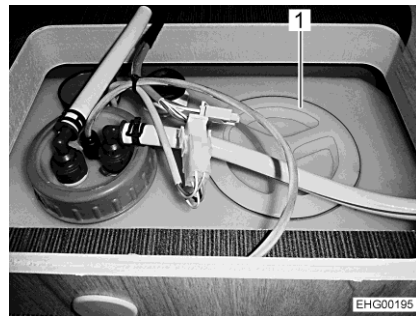

Fig. 175 Cleaning opening (water tank)
- Remove the cap (Fig. 175,1) of the water tank.